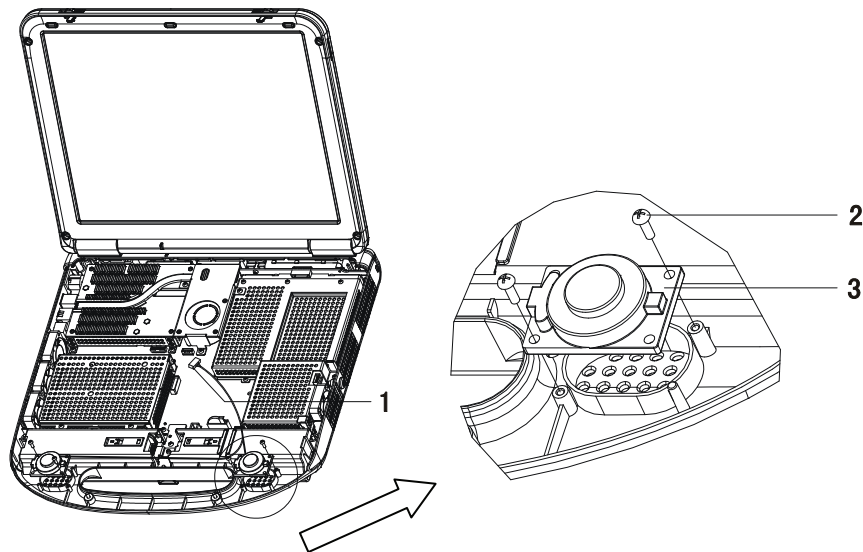

Figure 4-28 Removing Speakers
- 2) As shown in Figure 4-28, disconnect the speaker connectors;